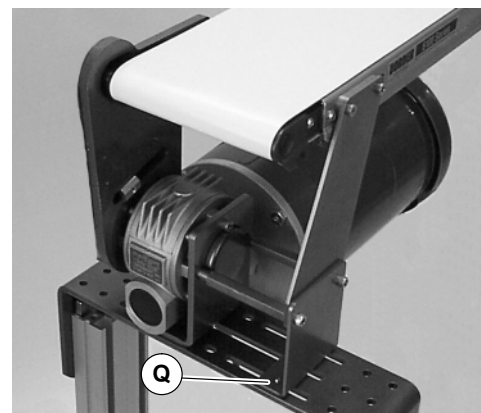

Figure 15
13. Mount assembly to support structure with four (4) screws (Q of Figure 15). Tighten to 80 in-lb (9 Nm).